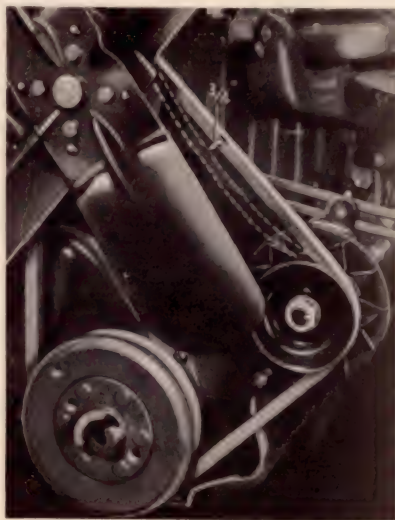

Fig. 42—Fan Belt Adjustment
The fan belt tension, should be checked occasionally and, if necessary, adjusted to provide $\frac{3}{4}$ " up or down movement from normal position at a point midway between fan and generator pulleys (fig. 42).
4. Pull the generator away from engine to tighten the belt. Tighten the brace to generator clamp bolt and check for $\frac{3}{4}$ " total up or down movement of belt at a point midway between water pump and generator pulleys (fig. 42). If necessary loosen clamp bolt and move generator slightly to obtain desired belt tension.